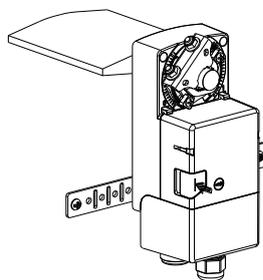

Fig.4
4. As shown in Fig.4, press the manual button, manually rotate the clamping bracket counterclockwise to the 0-scale position, and tighten the two nuts of the U-shaped hoop with a preload force of no less than 9Nm to reliably hold the damper shaft.